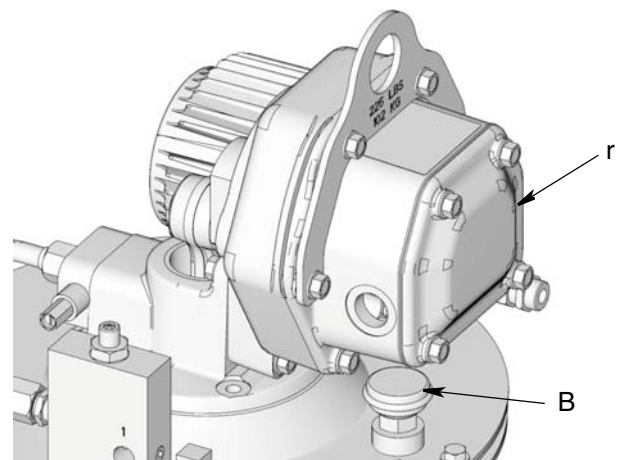

FIG. 12
NOTE: When the pump (A) is correctly installed, the breather (B) will be below the control box (r) as shown in FIG. 12.